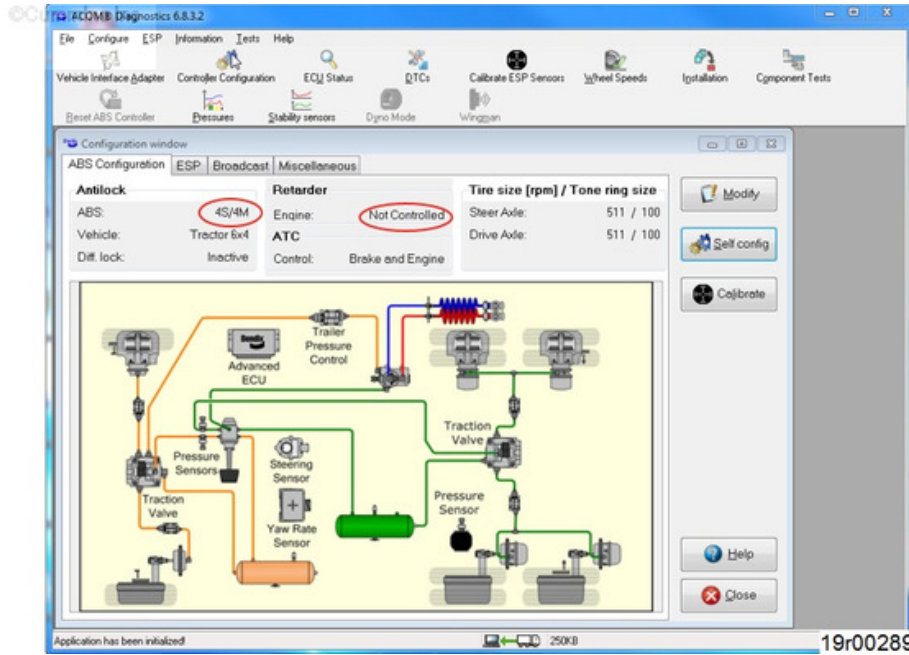

Figure 4, ACom® Verify Configuration
7. Verify configuration as shown in Figure 4 below is correct: